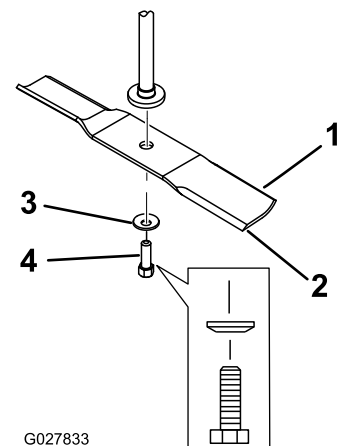

Figure 46
2. Remove the blade bolt, the curved washer, and the blade from the spindle shaft (Figure 46).
1. Install the blade onto the spindle shaft (Figure 46).
2. Install the curved washer (cupped side toward the blade) and the blade bolt (Figure 46).